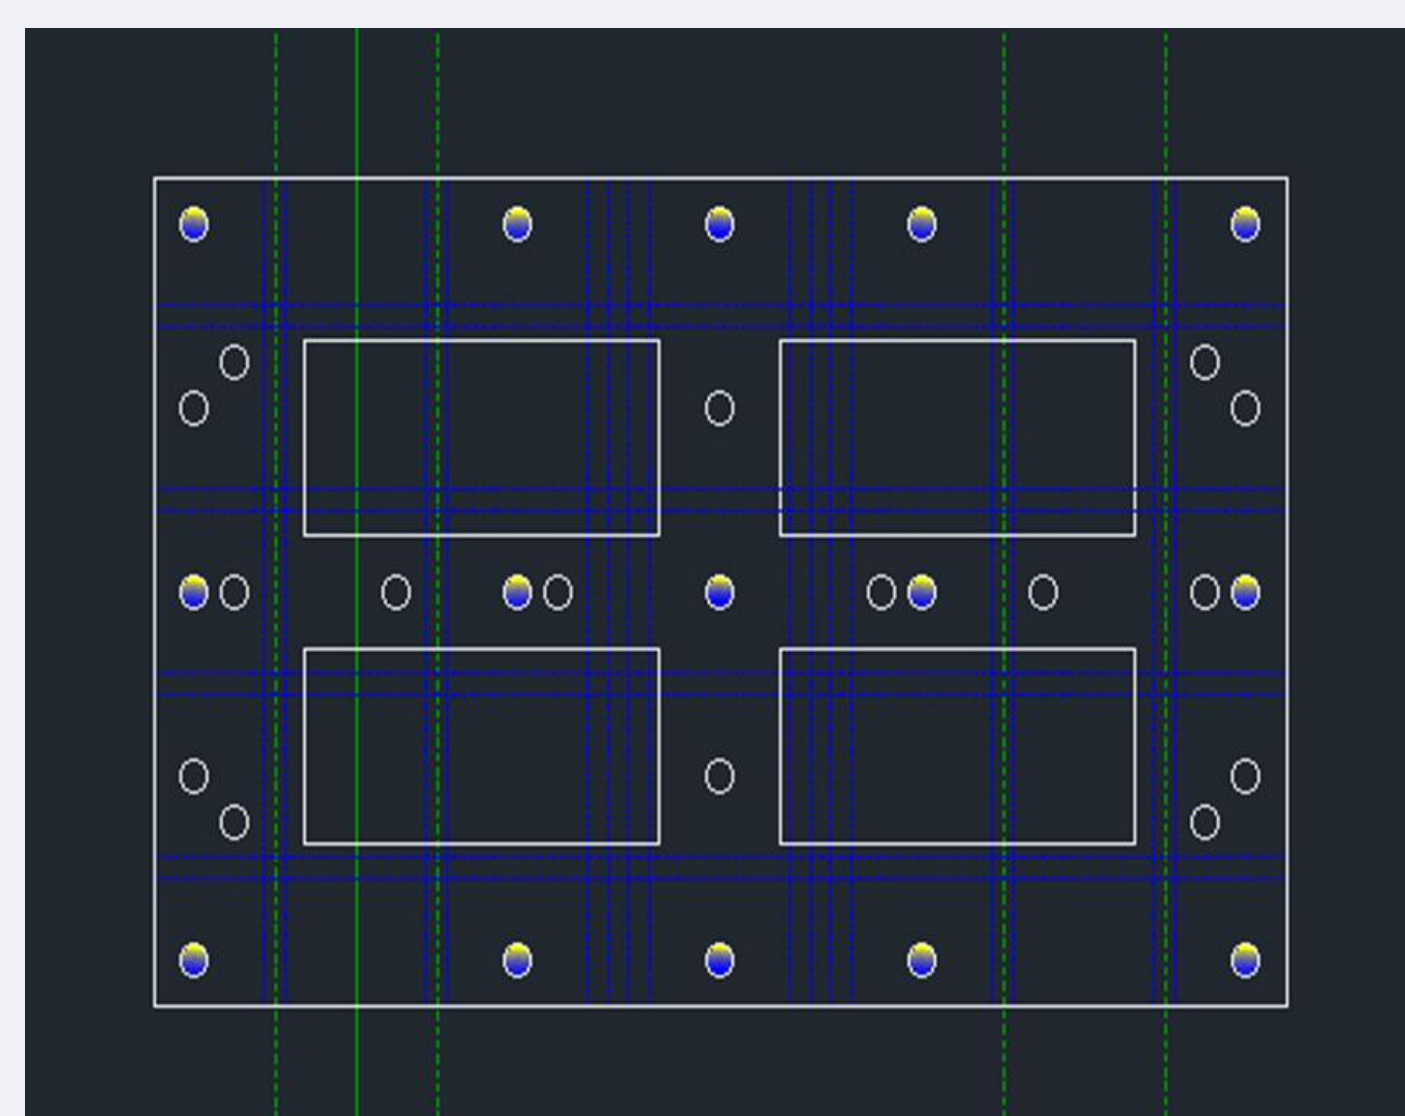

Fig. 4
- The post stressing rods will pass through each block in vertical conduits. Seen in Fig. 4